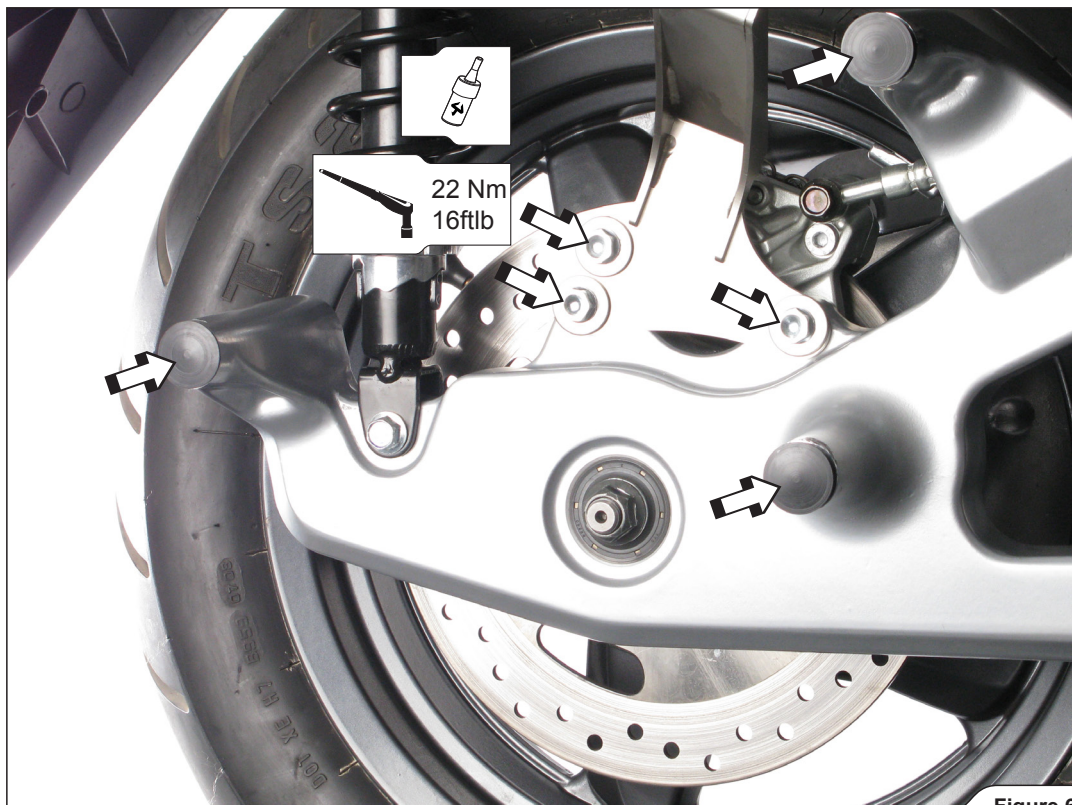

Figure 6
- For X-MAX 125 / X-CITY 125 only: install the Akrapovič muffler bracket onto the brake caliper as shown, using Akrapovič bolts and washers. Tighten the bolts to a specified torque. Insert the Akrapovič PVC plugs into the stock muffler's mounting holes, use rubber mallet to tap the plugs into place (Figure 6).